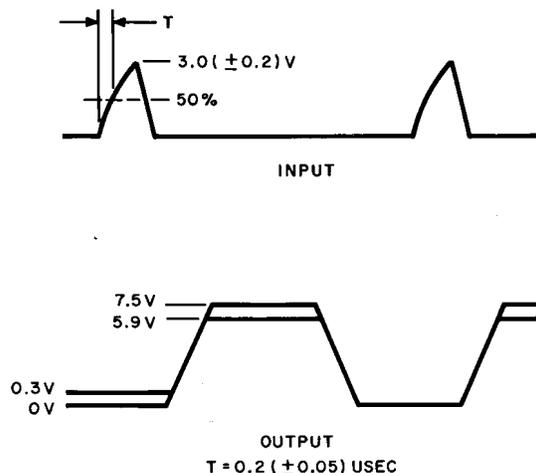

Fig. 36A — Monopulser Test
- (1) Set the NORMAL-DEGRADED selector to DEGRADED.
- (2) Adjust potentiometer P1 until the amplitude of the input test pulse on J8 is 3.0 (±0.2) volts on the oscilloscope. The input test pulse should appear as in Fig. 36A.
- (3) Rotate the INPUT selector through positions 1 to 6. The output pulse on J3 should appear as in Fig. 36A. Time base measurements need not be made on the output waveform.